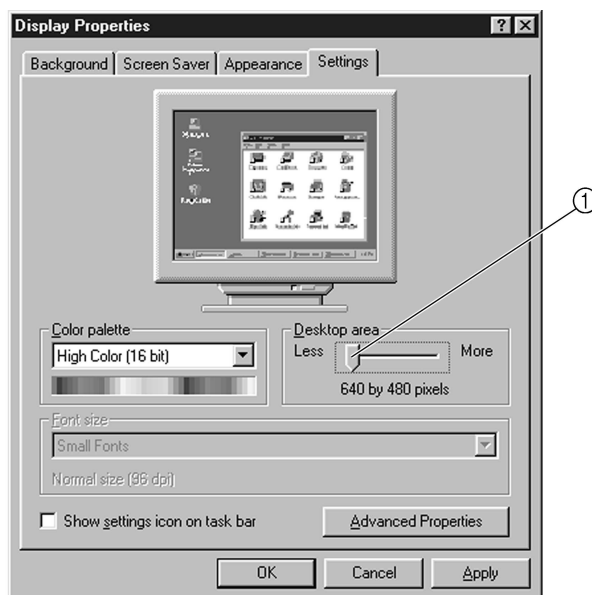

Fig. 74
3. Select **Settings** and slide the Desktop area slider. (Fig. 74)